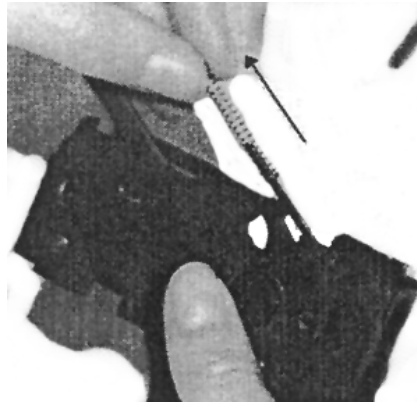

Figure 9
- Move *compression rod* to the rear and lift up, remove *compression rod spring* (Fig. 9)